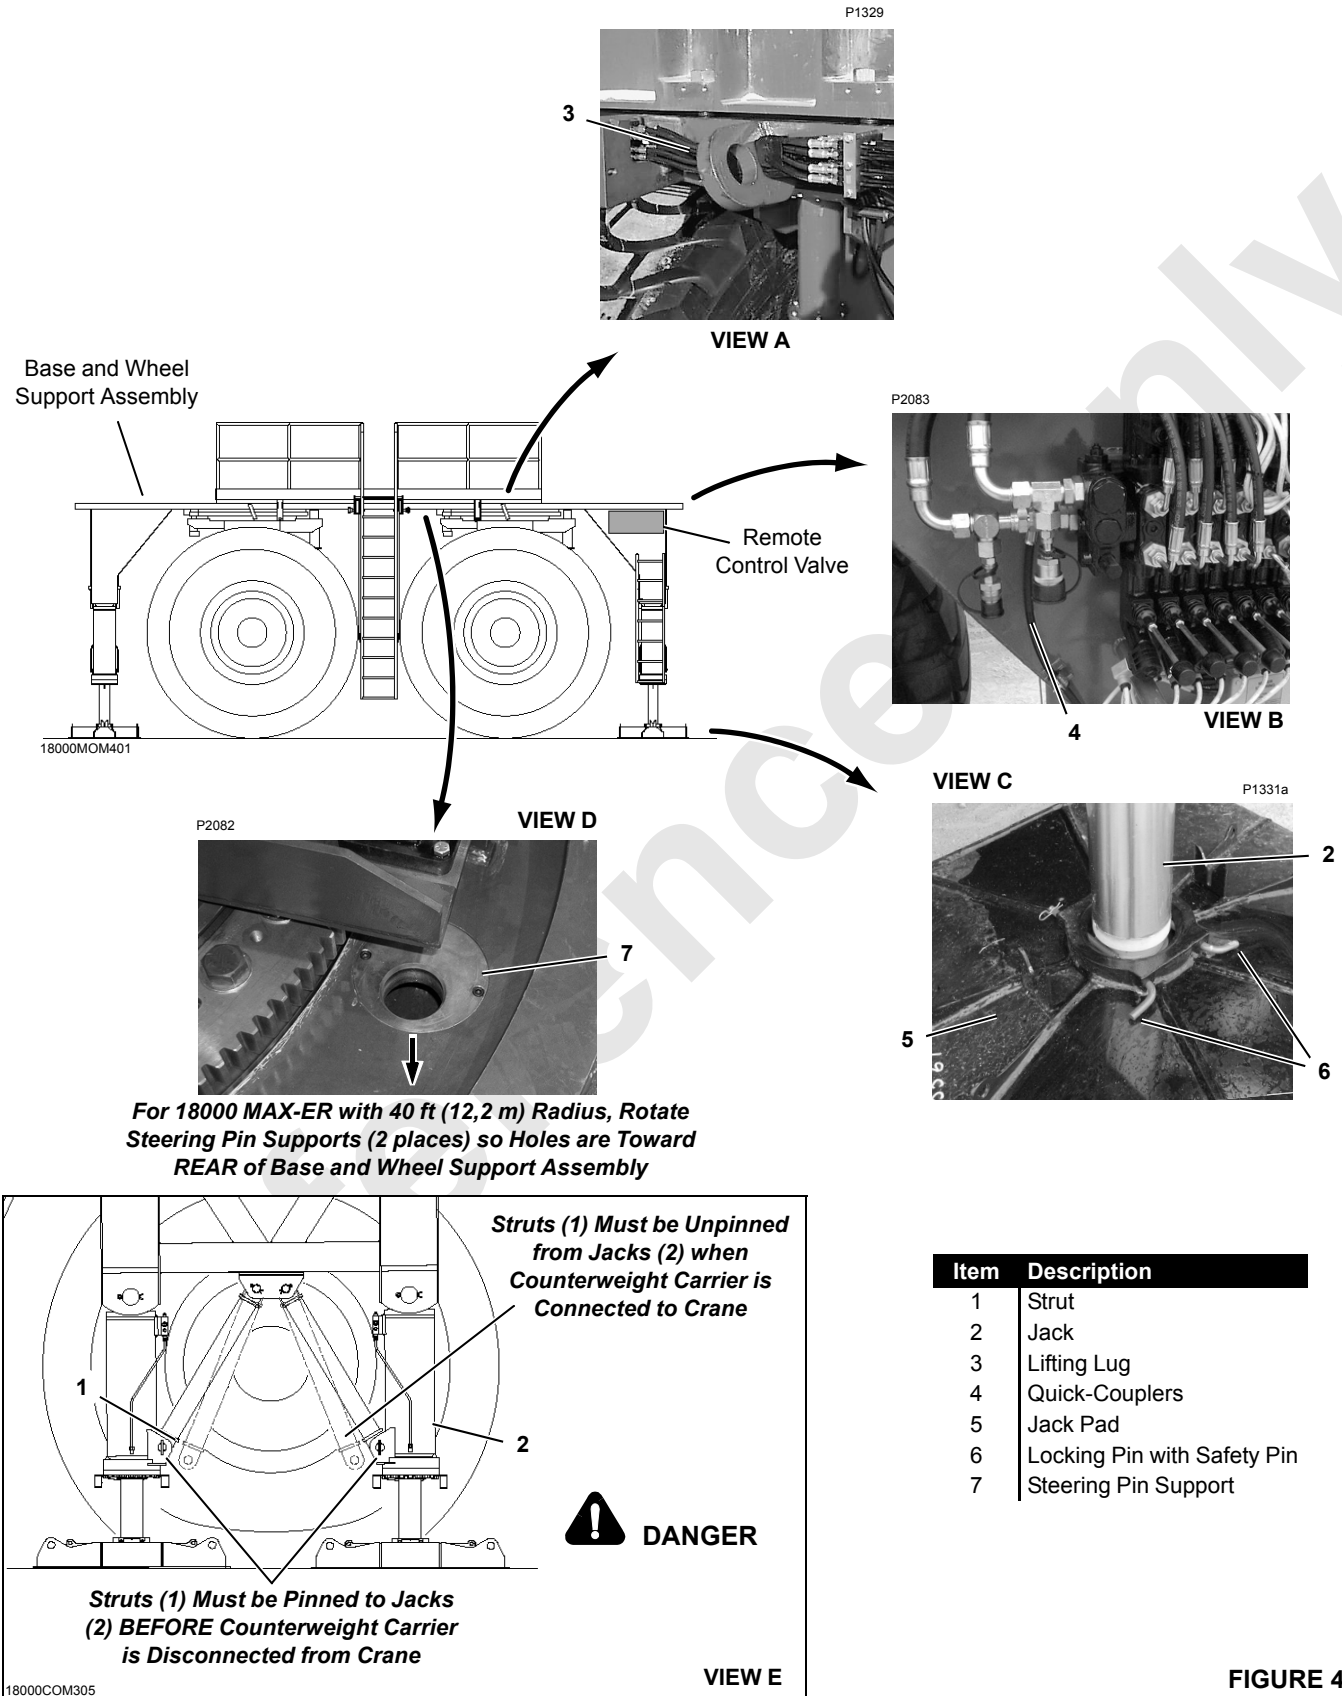

FIGURE 4-2
See Figure 4-2 for the following procedure. This procedure applies to 40 ft (12,2m) and 59 ft (18 m) radius.
9. For MAX-ER with 40 ft (12,2 m) radius, attach steering pin supports (7, Figure 4-2, View D) in proper position.